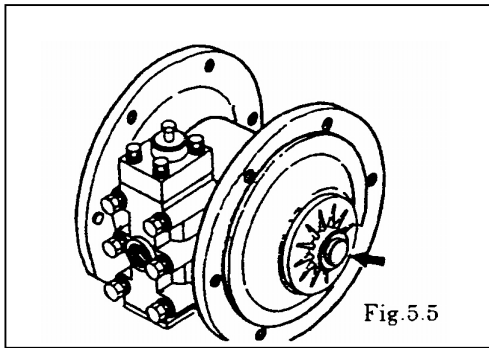
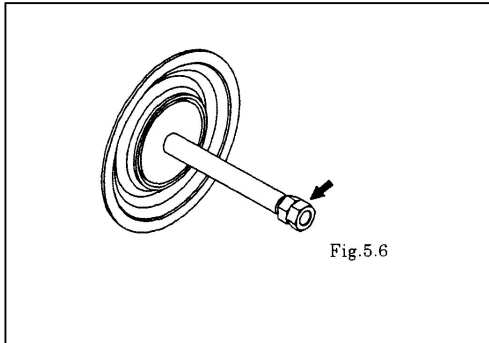

Fig.5.5
Fig.5.6
- Remove the centre disk from one side using the accessory tool (special tool: Part No. 771244). [Fig. 5.5]
- Remove the centre disk and diaphragm from the opposite side using the double nut. [Fig. 5.6]
- Install the out chamber of one side. Tighten the bolts temporarily. [Fig.5.5, Fig.5.6]